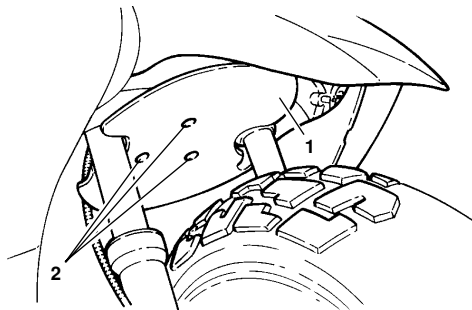

Fig. 16
- Per rimuovere lo scudo anteriore occorre smontare prima il disco paraschizzi (1 - Fig. 16) svitandone le tre viti (2).
- For removing the front panel You have to remove the dust shield disc (1 - Fig. 16), by removing the three screws (2 - Fig. 16).